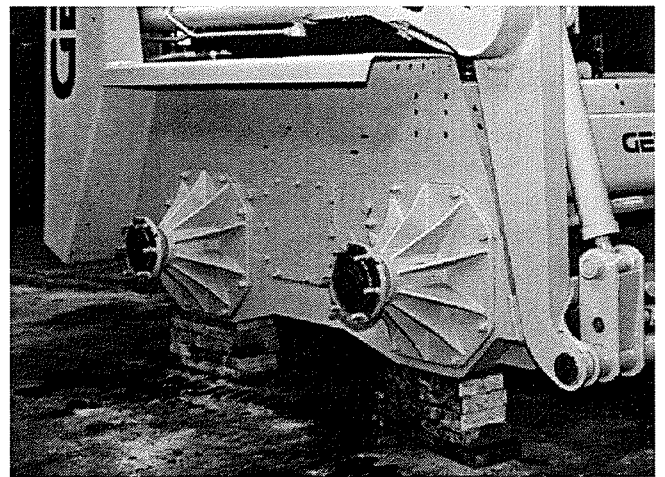

**Fig. 27: Skid Loader properly Blocked
3. Place a 7 1/2" stack of wooden blocks under the flat part of the Loader Chassis. They should run parallel with, but not touch, the rear Tires. (See Fig. 27)
5. Repeat steps 2 thru 4 for the front end of the Loader. When the procedure is finished, all four Tires should be off the ground so they can be removed if necessary. (See Fig. 27)